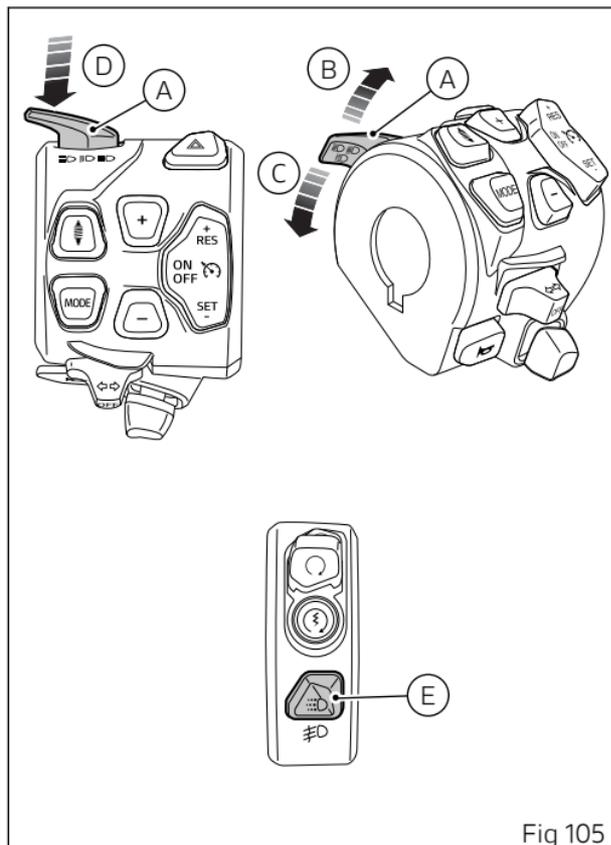

Fig 105
When the DRL is set to "Auto" mode, the corresponding warning light will turn on. If the DRL was set to "Auto" mode, press button (E, Fig 105) to disable that mode and set manual light management. Press again button (E, Fig 105) to re-enable DRL but with control strategy set to "Manual".
If the DRL lights are in this mode, as set through the "DRL" function within the "Setting menu" (page 256) DRL lights will not change their status upon key-on. To switch on or off the DRL lights, it is necessary to press button (E, Fig 105).
- if DRL lights are present, press and hold button (E, Fig 105) for a long time;
- if DRL lights are not present, press button (E, Fig 105).